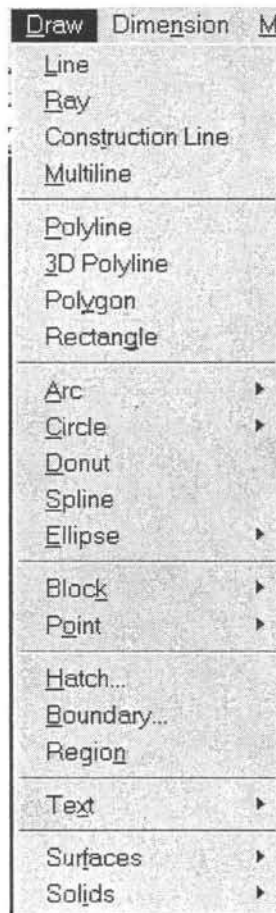

Fig. 14.6
14.7.1 Pull-down Menus [pd menu] (Fig 14.6)